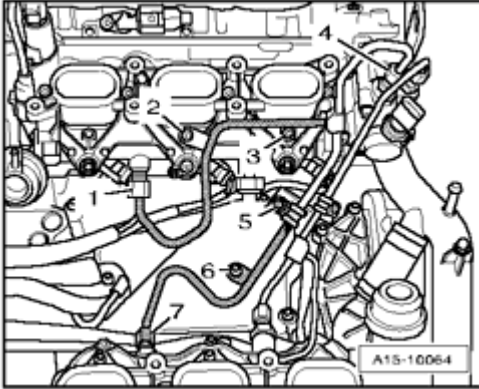

Fig. 55: Removing High-Pressure Line, Thereby Removing Bolts And Union Nuts
- Tighten high-pressure lines --> **Fig. 55**